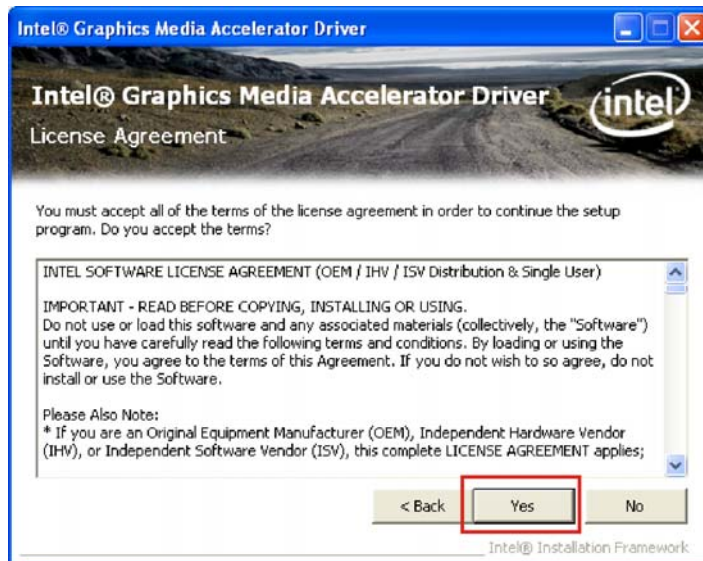

Figure 6-10: Graphics Driver License Agreement
Step 7: The license agreement appears (Figure 6-10).